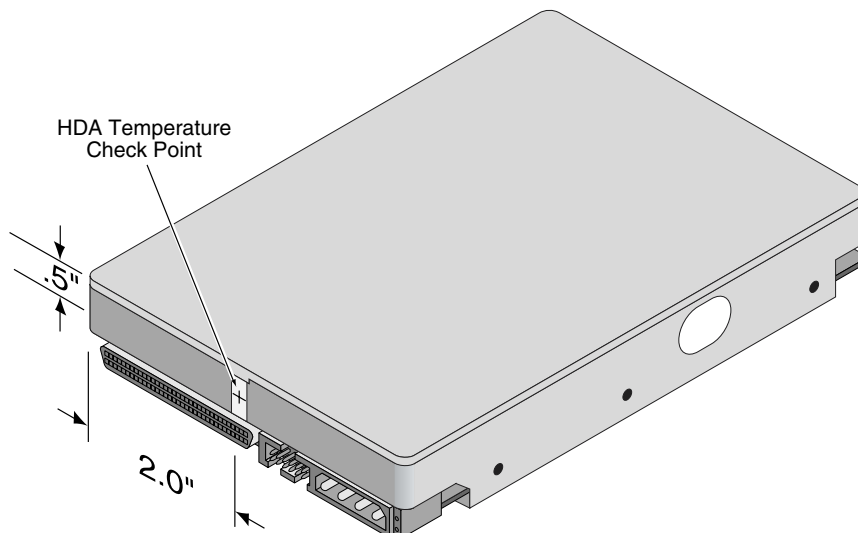

Figure 6. Location of HDA Temperature Check Point
- [3] Measure HDA temp at point labeled "HDA Temp. Check Point" on Figure 6.